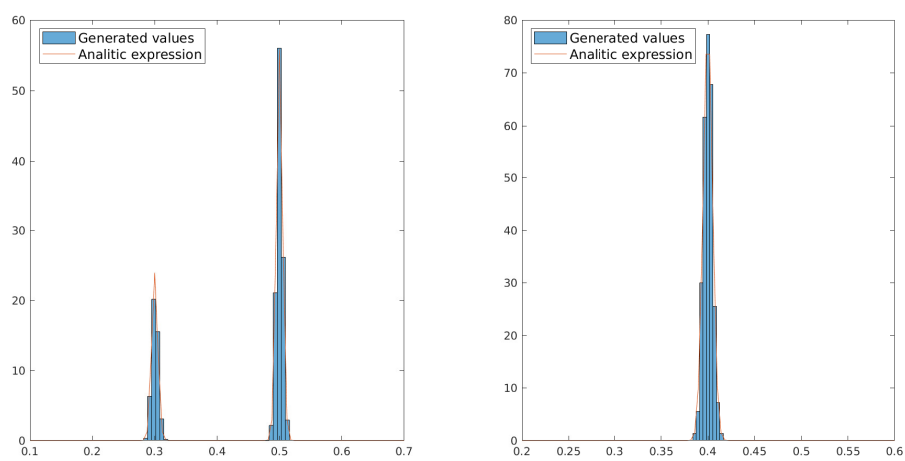

Figure 5.5
- 2 parameters (Figure 5.5, 5.6, 5.7)